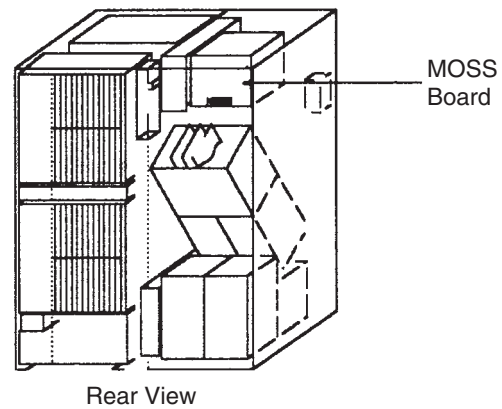

Figure 4-143. Base Frame - Rear View
4. Refer to Figure 4-143 to locate the MOSS board.